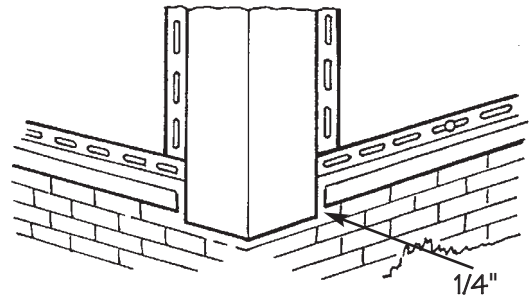
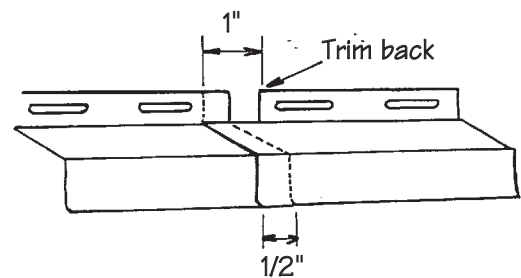

Figure 50.
Figure 51.
- Fasten every 8" to 12". Use the center of the nail slots. All vinyl should be fastened securely but not tightly. Sideways movement should not be restricted. Leave 1/4" gaps at the corner posts (Fig. 50). Where lengths adjoin, trim the nailing flange 1" and overlap 1/2" to produce a neat joint (Fig. 51).